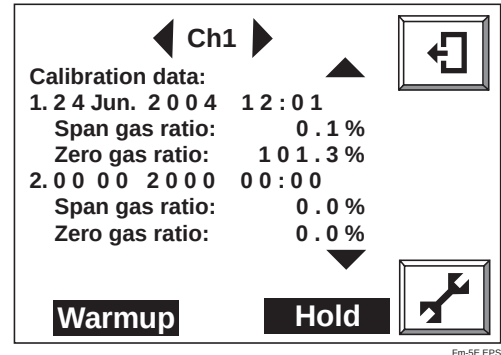

Figure 12.9 Calibration History
- b. Use the Page Scroll key to check Calibration Data (Figure 12.9). The span and zero correction factors of the last ten calibration can be checked here. By checking these data, whether the sensor deterioration has occurred suddenly or gradually can be determined.